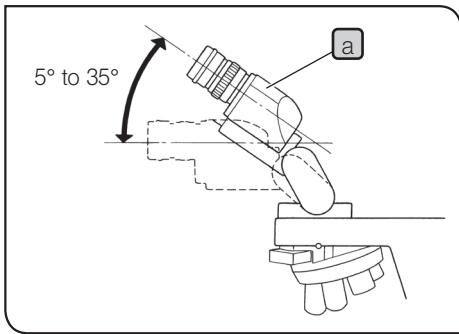

Fig.28
**5 Adjusting the tilt** (Figs.28 to 31)
With the U-TBI-3/U-TBI-CLI (Fig.28)